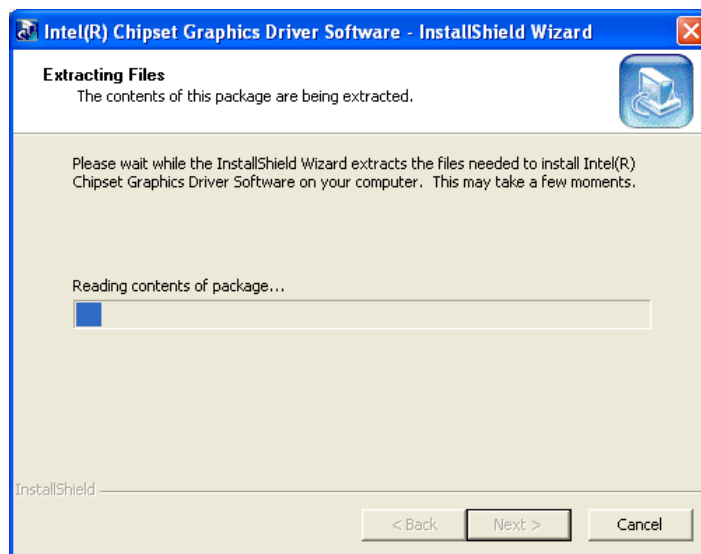

Figure 7-9: VGA Driver Setup Files Extracted
Step 4: The installation files are extracted. See **Figure 7-9**.